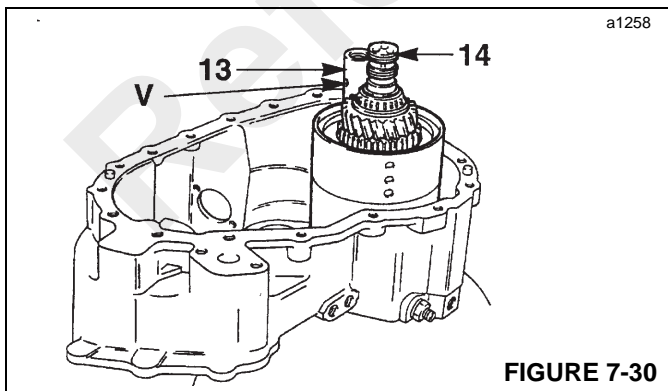

FIGURE 7-30
13. Press idler gear spindle (13, Figure 7-30) into casing. Ensure that oil drain hole V points toward bottom of casing.
14. Grease piston ring seal and pack pump end bearing with grease. Then, carefully, lower reverser (14) into the casing.